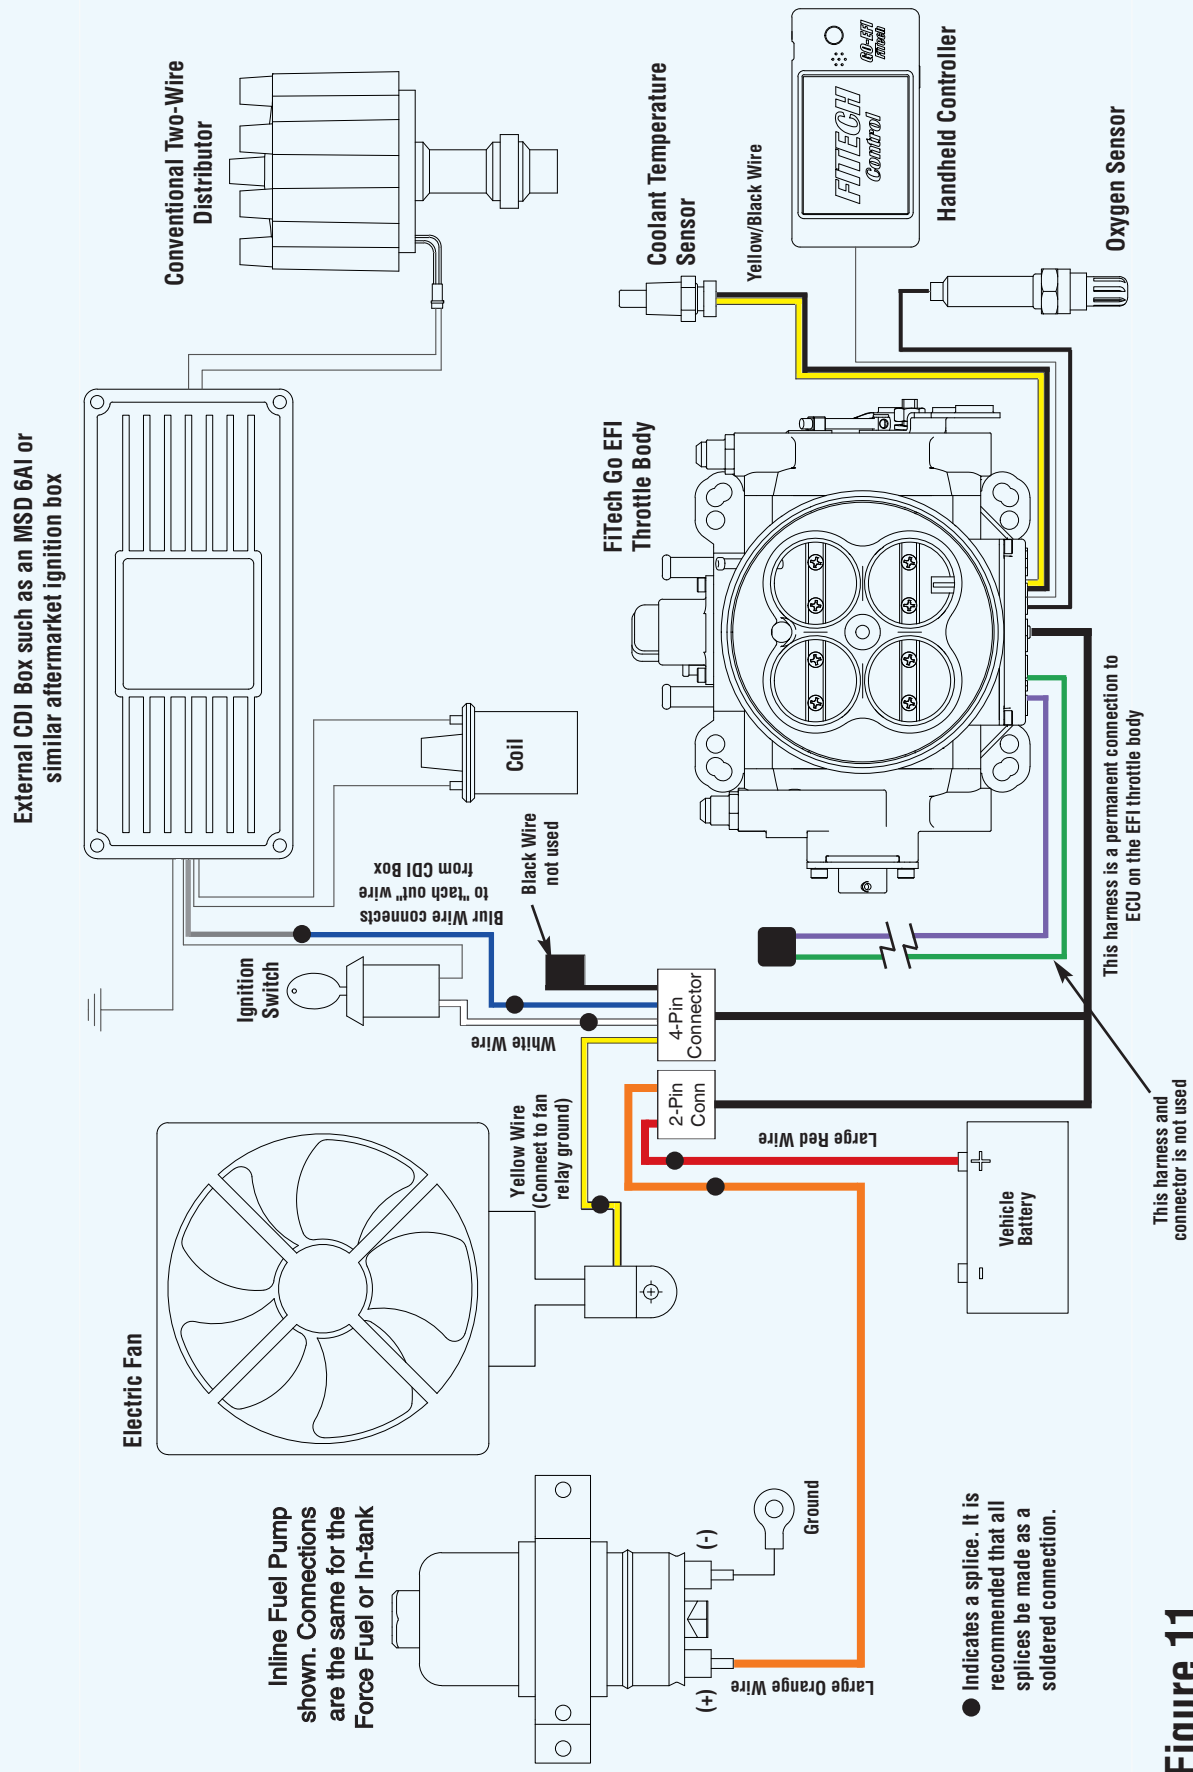

**Figure 10**
**Selecting the correct wiring schematic:** Review Figures 10 through 14 and select the schematic that suits your particular application. Note that if you elect to use Timing Control you must select a suitable schematic. Figure 10 shows how to connect a ready-to-run distributor without timing control. Figure 11 is for an HEI distributor without timing control. Figure 12 is for a system with an external CDI box without timing control while Figure 13 is a CDI box with timing control. And Figure 14 is with a conventional 2-wire distributor with timing control. One of these configurations will suit your vehicle.